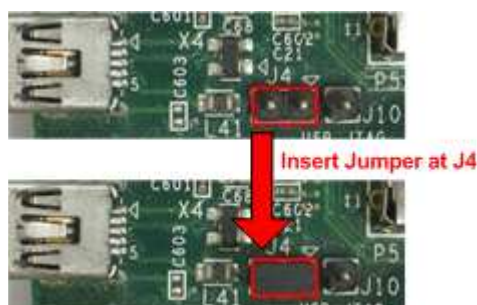

Figure 6 Insert Jumper at J4 connector
- Insert Jumper to pin1-2 at J4 connector to enable SFP+, as shown in Figure 6.